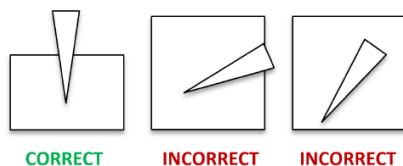

Figure 1. The correct positioning of a micropipette tip
6. Hold the micropipette vertically (see Figure 1) over the practice gel, such the tip is below the water level and just above the well. There is no need for tip to enter into the well, as the heavy glycerol will pull the sample down into the bottom of the well.